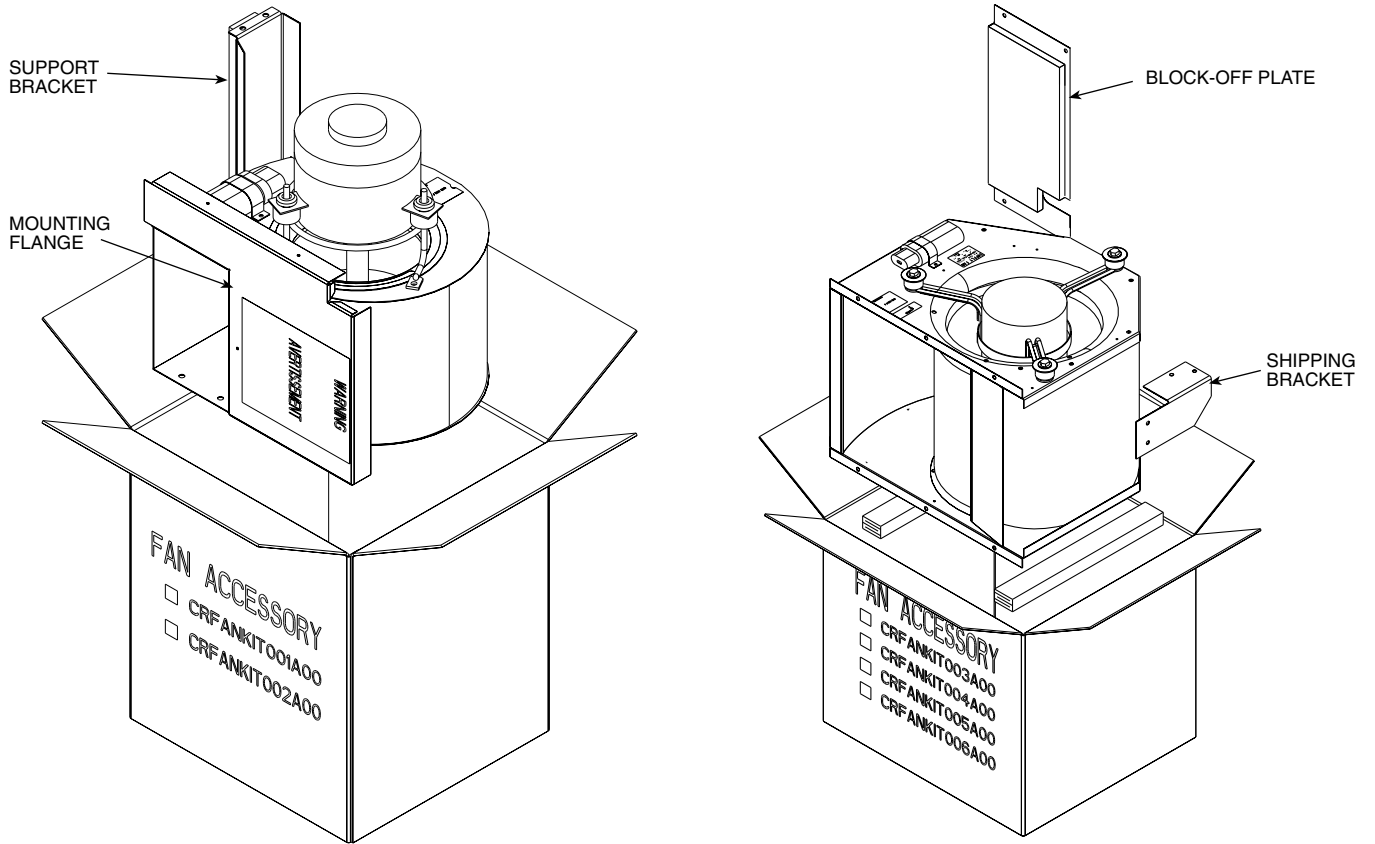
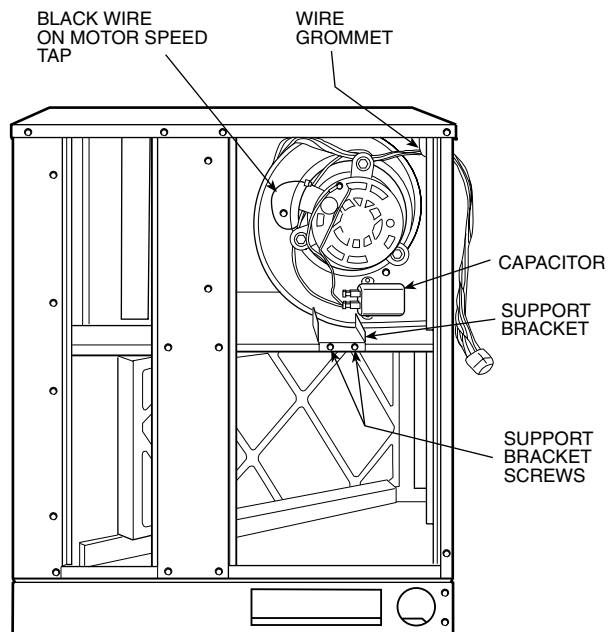

Fig. 1 — Accessory Supply Air Fan Kits
Fig. 2 — Typical Fan Assembly Installation (CRFANKIT001A00, CRFANKIT002A00 Shown)
5. The Supply-Air Fan kit fan assembly is shipped pre-assembled. See Fig. 1. Put assembly in place as shown in Fig. 2 and secure to unit with 4 screws in the mounting flange, 2 screws in the blower housing, and 2 screws in the support bracket.
5. The Supply-Air Fan kit fan assembly is shipped pre-assembled. See Fig. 1. Put assembly in place as shown in Fig. 2.